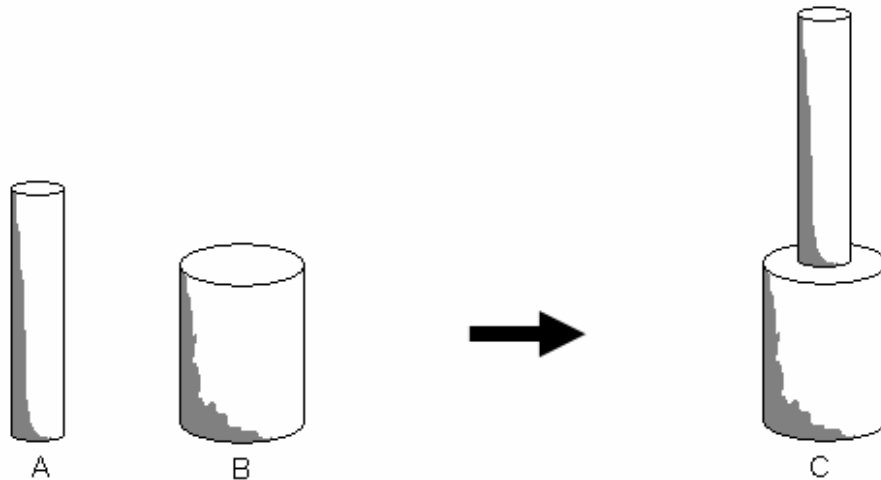

Figure 1
1. Figure 1 shows the mild steel bar A and B which are going to be joined as C by using arc welding process.